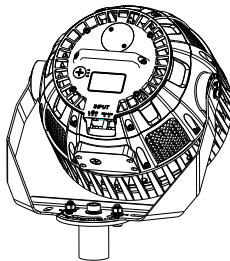

Figure 12
3. Use an open-end wrench and hex wrench to loosen the adjusting screw for adjusting the angle (Figure 12)